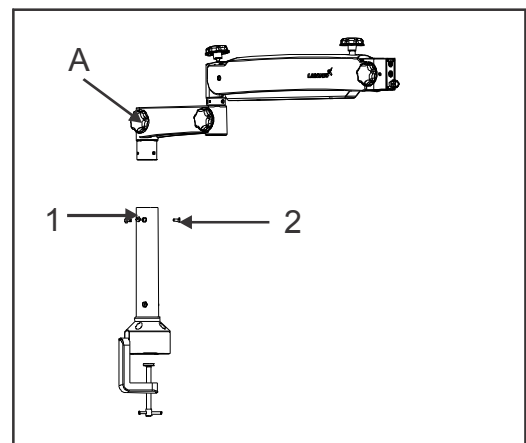

Fig. 3
- 7.2 Retrieve the swivel arm and suspension arm assembly from the packing box. Ensure loosening of swivel arm lock knob (A).
Install the swivel arm assembly on the upright column (1) figure 3.
Tighten the screw (2) as shown in fig. 3 for proper securing the swivel arm with suspension arm.